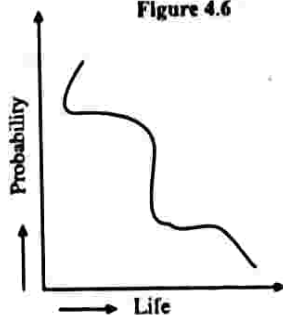

Figure 4.8
- iii) **Random Failure:** The situation where equipment suddenly stop working by any random cause such as any breakage, physical shock etc., which is irrespective of the age of the item. For example, vacuum tubes, electronic items etc. Figure 4.8.